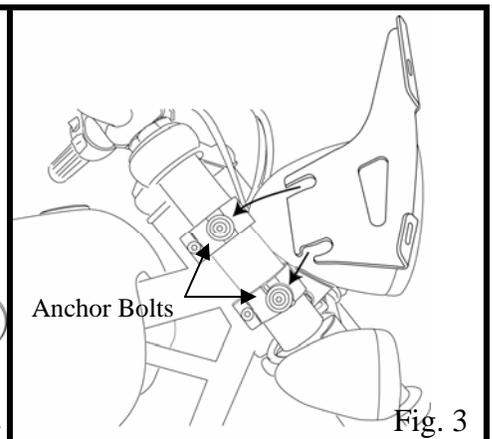

Fig. 3
4. Loosen the four anchor bolts that are to hold the windshield to the Fork Clamps, and slip the windshield mounting plates and windshield onto the fork clamps. (see figure 3)